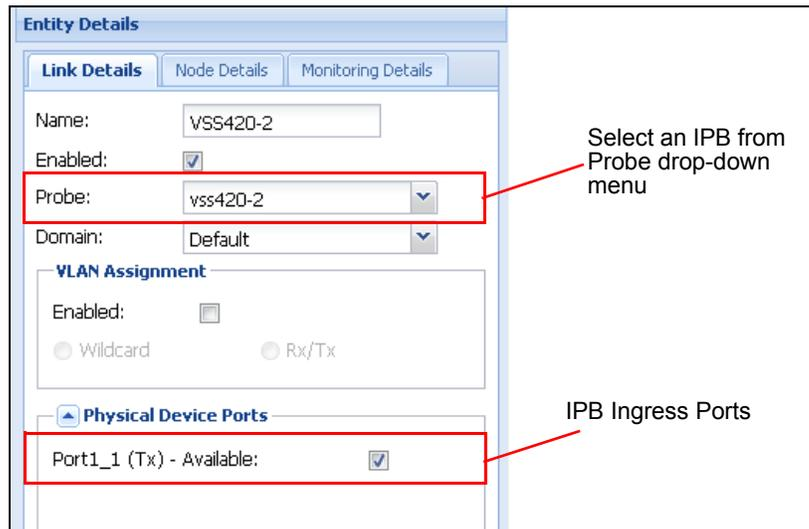

Figure 3.13 - Iris Admin Topology Tab - Physical Links Pane
5. Create physical links for the IPB device. The IPBs are available in the Probe Selection drop-down menu as shown in Figure 3.13.
When you select an IPB device, the ingress ports of the IPB appear in the Physical Device Ports area (Figure 3.13).